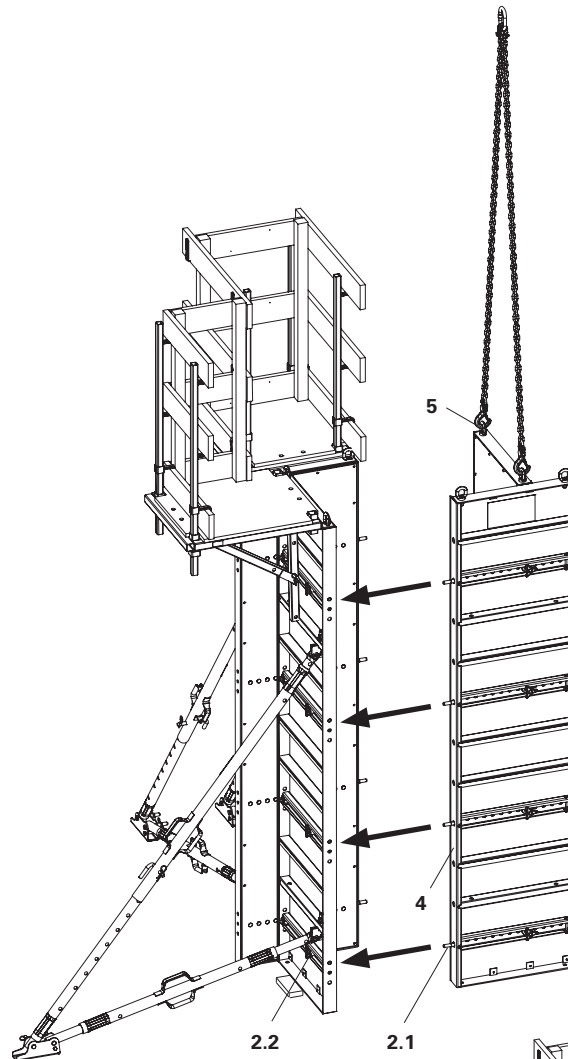

Fig. C2.05
1. Attach crane lifting gear to the crane eyes (5), lift formwork to a vertical position and then transport to the place of use.
2. Attach LICO chamfer strips (4) to the front side.
- (Fig. C2.05)